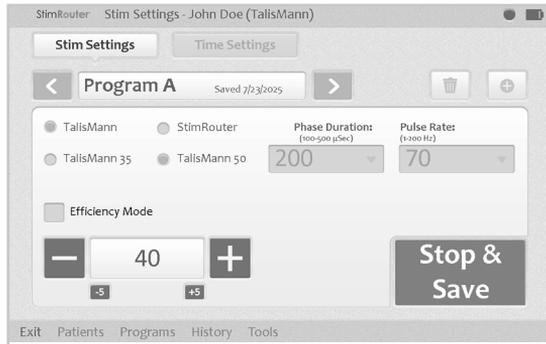

Figure 9-7: Press “Stop & Save” to stop testing and save the current stimulation settings
- Press the “Stop & Save” button to stop stimulation and save the stimulation settings to the Clinician Programmer and E-EFC. See Figure 9-7.